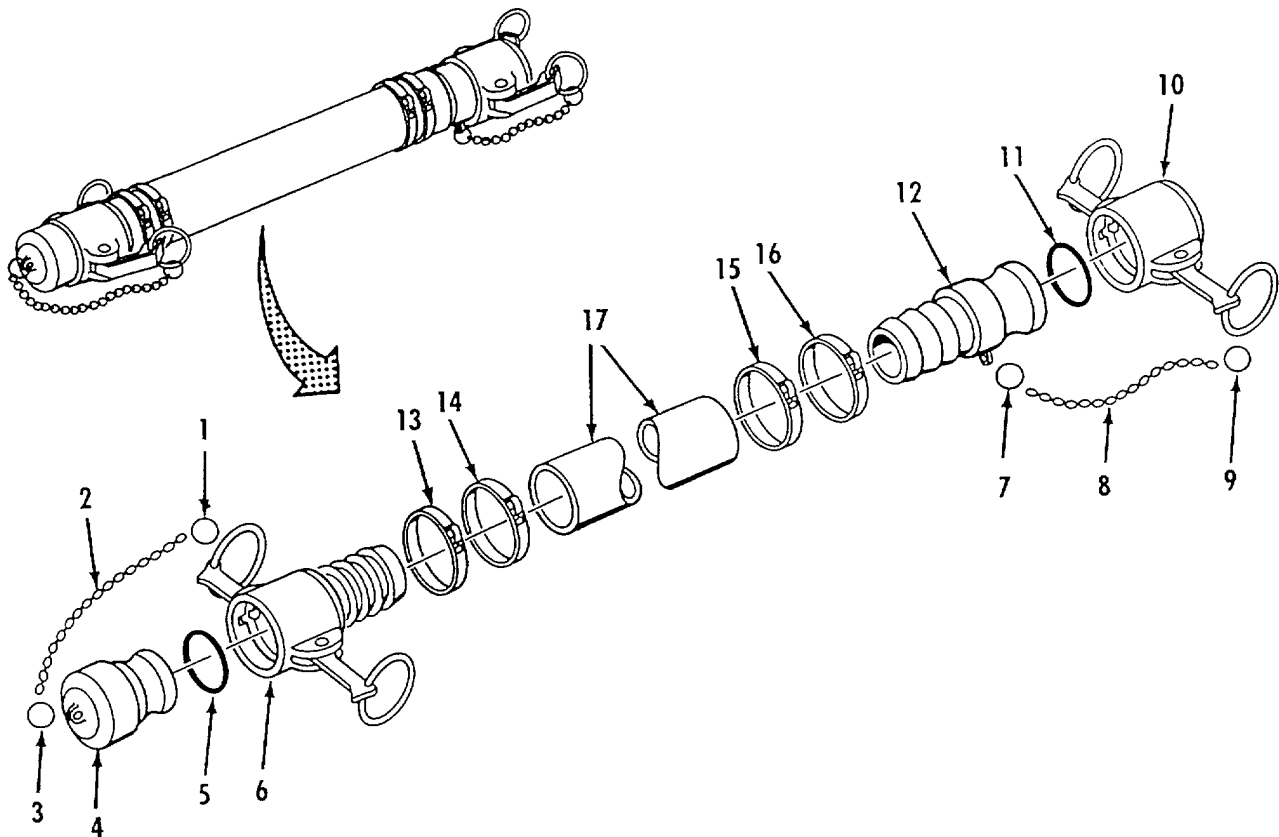

Figure 4-1. Discharge and Suction Hose Disassembly.
- a. Disassembly. Refer to figure 4-1.
- (1) Disconnect split ring (1), chain (2) and split ring (3) from dust plug (4).
- (2) Remove dust plug (4) from female coupling (6).
- (3) Remove gasket (5) from female coupling (6).
- (4) Disconnect split ring (7), chain (8) and split ring (9) from dust cap (10).
- (5) Remove dust cap (10) from male coupling (12).
- (6) Remove gasket (11) from dust cap (10).
- (7) Cut strapping (13 and 14) from hose (17) Pull female coupling (6) from hose.
- (8) Cut strapping (15 and 16) from hose (17) Pull male coupling (12) from hose.
- (1) Push male coupling (12, figure 4-1) and female coupling (6) into hose (17).